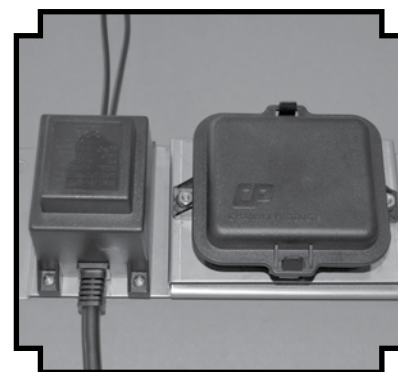

Figure 7-2 - Locating battery compartment.
- 1)** Locate the battery compartment. On free standing models this is located inside the grill cart on back left. (For 42" free standing models you will need to remove both storage drawers). For built-in models it is located under the unit where the installer has mounted the battery and transformer bracket. (See figure 7-2)